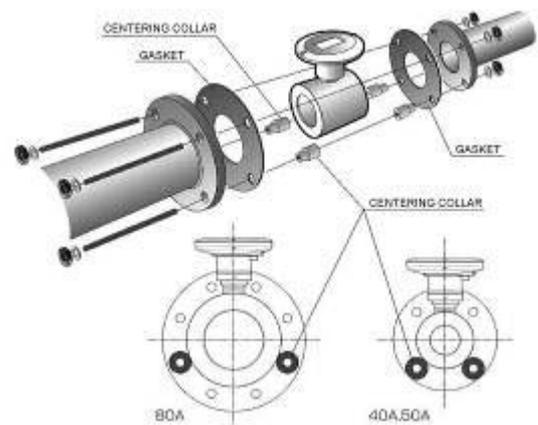

Fig. 2-3 Example of attaching the centering collars
- Install the wafer connection type flow meter so that the central axis of the flow meter is aligned to that of pipes to be connected. To reduce the displacement of the central axes of the flow meter and the pipes, it is recommended that the centering collars provided as accessory be used. As shown in Fig. 2-3, insert the centering collars provided as accessory into the holes of flange gaskets and flanges. By fitting the flow meter to the centering collars, the central axis of the flow meter can be aligned to that of the pipe. If it is difficult to install the centering collars at both upstream and downstream sides due to the misalignment etc. of pipes, install the collars only at the upstream side.